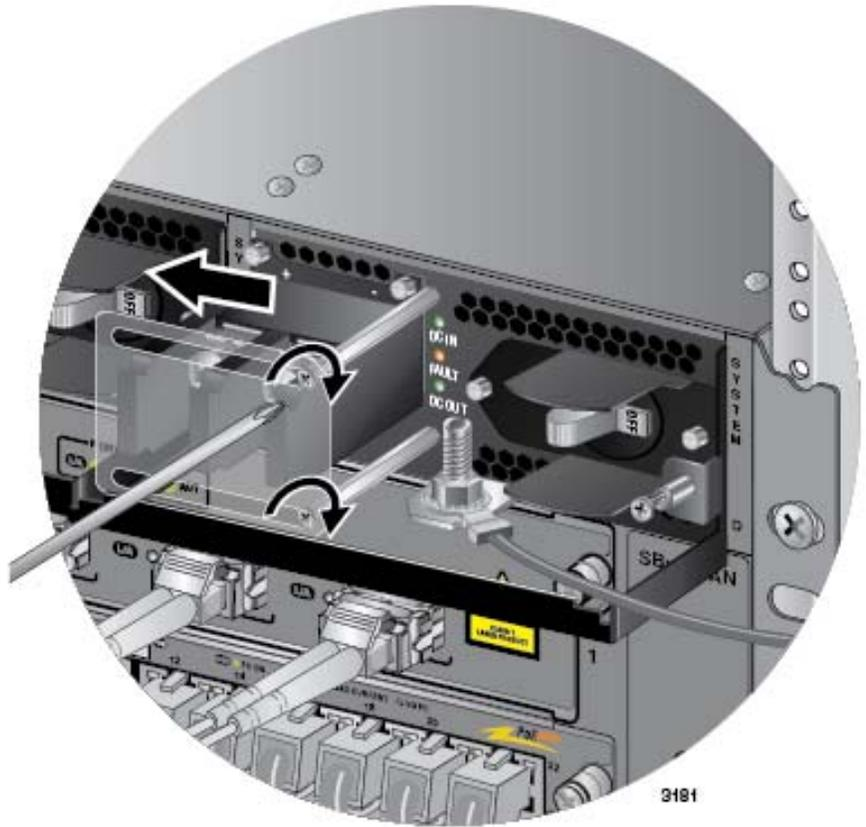

Figure 155. Closing the Plastic Cover
8. Slide the plastic cover to the left and lightly tighten the two screws to secure it in place. Refer to Figure 155 on page 244.